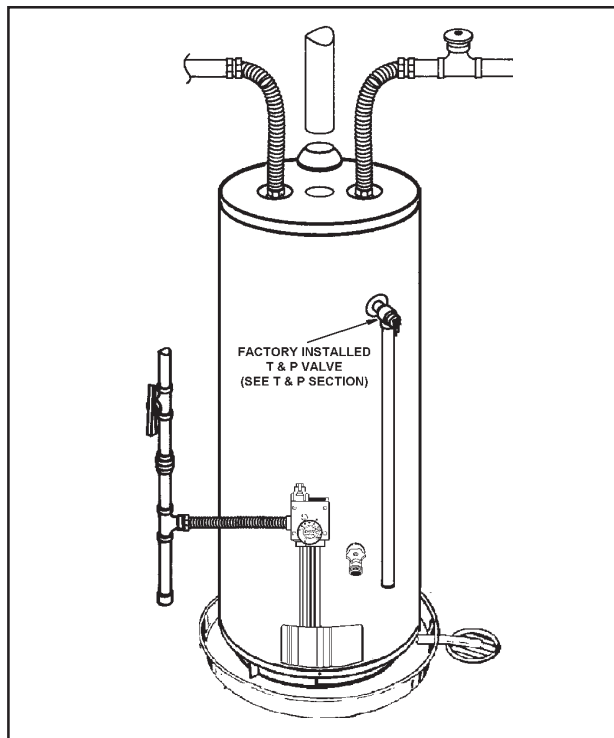

FIGURE 15.
(See Figure 15)
5. Connect the flexible gas connector to the incoming gas line using the end with the 1/2" female fitting, a 1/2" threaded nipple is supplied if needed. The 1/2" male fitting on the other end is to be connected to the gas thermostat. Make sure that the gas type you have is the same as the gas type indicated on the rating plate. Make sure that all connections are tight. All threaded fittings must have teflon tape or pipe dope (which is resistant to the action of liquefied petroleum (L.P. Gas) applied, see Figure 15.